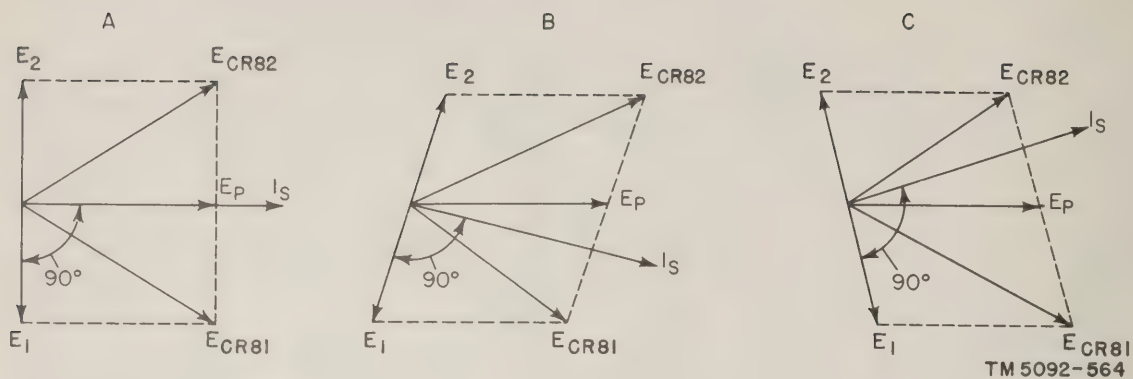

Figure 29. Radio Receiver R-394/U, discriminator vector diagrams.
age, E_p (voltage at the junction of C108 and C109) by 90° . The vector sum of the applied voltage, E_p , and the voltage across C108, E_1 , is shown on A, figure 29, and is represented by the resultant vector, E_{CR81} . To obtain the voltage at CR82, it is necessary to add vectorially the voltage across C109, E_2 , to the applied voltage, E_p , in the opposite sense from that of C108. Therefore, on A, figure 29, E_2 is drawn straight up, and is 180° out of phase with E_1 . The resultant vector, E_{CR82} , represents the voltage at CR82. Although both resultant voltages differ in phase, their magnitudes are equal.
- (2) When the applied voltage is above the center frequency, the current, I_s , through the secondary circuit lags the applied voltage. In B, figure 29, E_1 is shown lagging I_s by 90° and E_2 is shown leading I_s by 90° . In this case it is apparent that the i-f voltage at CR82 is greater than that at CR81.
- (3) When the applied voltage is below the center frequency, the current, I_s , through the secondary circuit leads the applied voltage, E_p . In C, figure 29, E_1 is again shown lagging I_s by 90° and E_2 is shown leading I_s by 90° . In this case it is apparent that the i-f voltage at CR81 is greater than that at CR82.